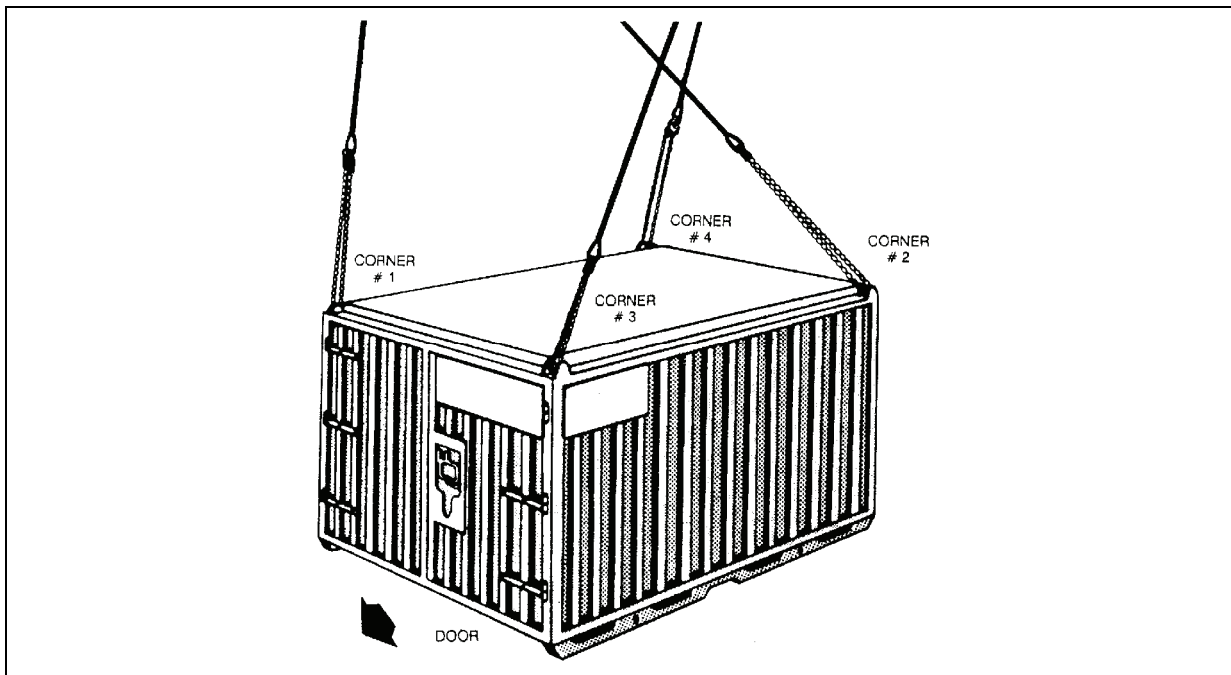

Figure 14-4. One Conex Container
- **Rigging.** Rig the load according to the steps in Figure 14-4.